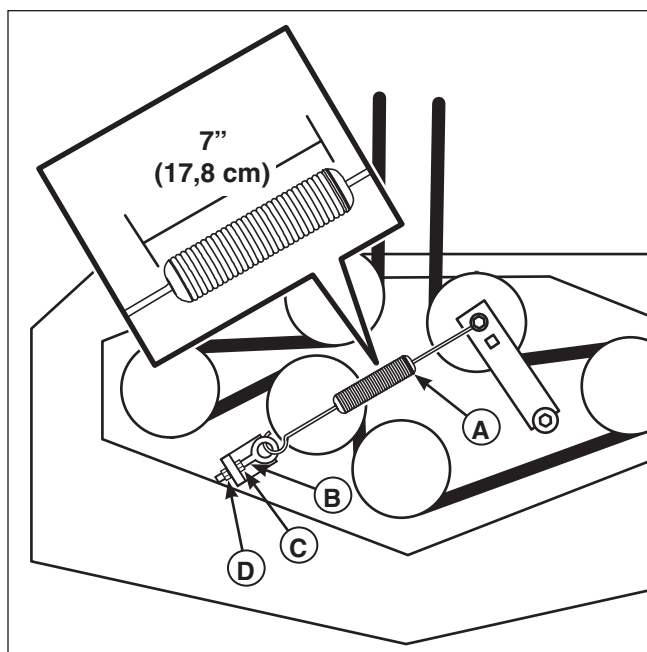

Figure 42. Adjusting the Mower Belt Idler Spring Length
3. Measure the coil length of the mower belt tensioner spring (A, Figure 42). The measurement should equal 7" (17,8 cm). If the measurement does not equal 7" (17,8 cm), adjust the anchor eyebolt (B).